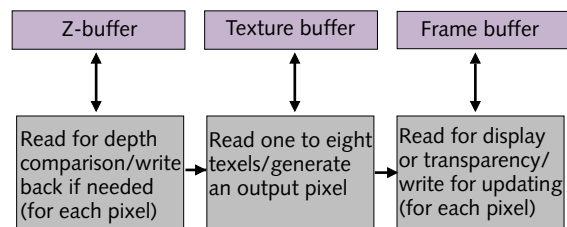

Figure 1. Data flow in a simplified rendering pipeline for 3D hardware accelerators in most of today's graphics workstations.
As Figure 1 shows, the FX!32 software consists of three component parts: the runtime emulator, the background translator, and the transparency server. The first time an x86 application is executed, the transparency server determines that the file is an untranslated x86 program and hands it off to the emulator.
**Figure 1.** Digital's FX!32 emulation technology consists of a runtime-emulation stage and a later background-translation stage. The transparency server manages the executable images.
The 56800 borrows heavily from its architectural predecessor, the 56100, but makes a number of changes. The two core designs share a similar overall architecture and internal data paths, but the 56800 family has fewer registers. As Figure 1 shows, the 56800 core has three 16-bit general-
**Figure 1.** The 56800 retains the 56100's 40-bit accumulator registers but drops one general-purpose data register. The 56800's program counter was extended to 19 bits for a bigger code space.
There are many ways to reduce the cost of a traditional workstation 3D subsystem without significantly impacting its graphics performance. For instance, Figure 1 illustrates the data flow in a simplified rendering pipeline for a typical workstation 3D accelerator. When performing texture-mapped 3D graphics, memory can be allocated in each of the three buffers: the frame buffer, texture buffer, and Z-buffer. For decent 3D graphics, each of these buffers must be 2M or larger. Even using commodity DRAM, these three buffers alone will cost more than \$160, the cost of an entire 3D add-in card for the retail PC market, preventing this approach from being effective in the PC market.